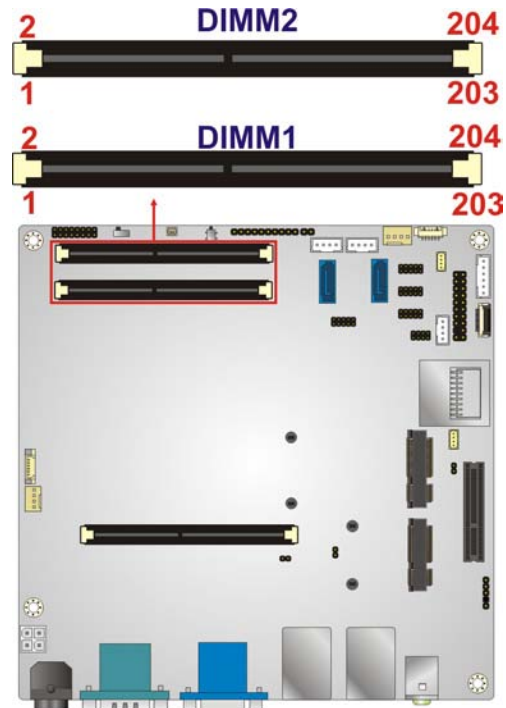

Figure 3-8: DDR3/DDR3L SO-DIMM Slot Location
- CN Location: See **Figure 3-8**